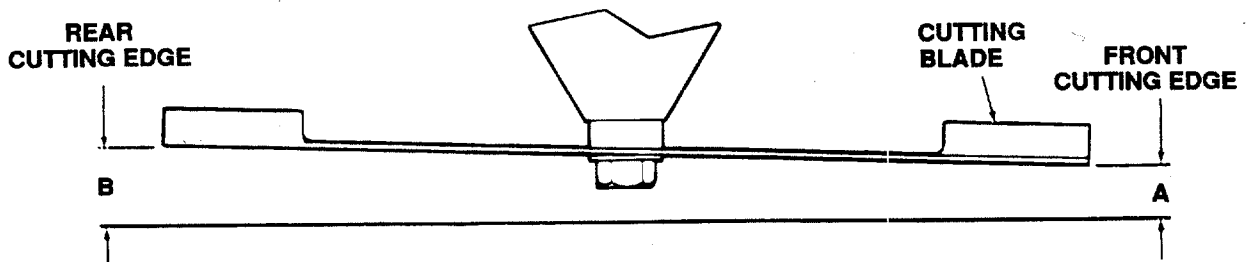

Figure 34
4. Refer to Figure 34. Measure and record the distance from the front cutting edge to the ground (measurement A), and from the rear cutting edge to the ground (measurement B), for each of the blades. The front edge of each blade (measurement A) should be lower than its back edge (measurement B) by 1/8 to 1/4 inch.